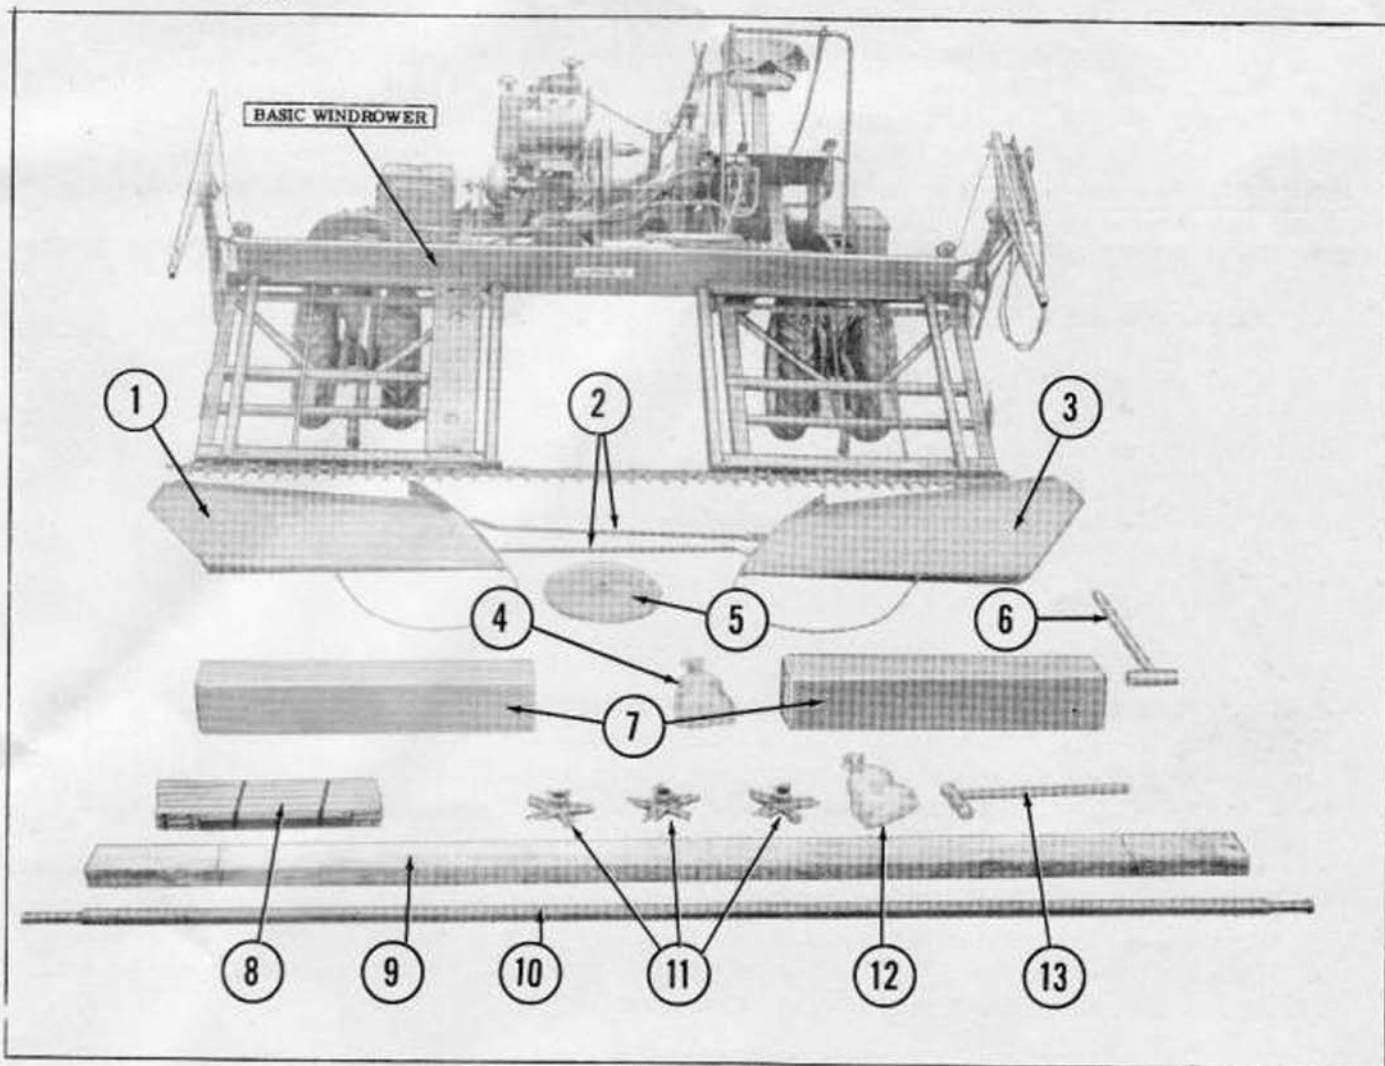

Figure 12
All other parts which are removed to avoid damage in shipment are wired to the header of the basic windrower. These are listed below and shown in Figure 12.
NOTE: In the windrower models shipped less reels (14-180 through 183), items 8 through 13, Figure 12, are not included in the bundles.